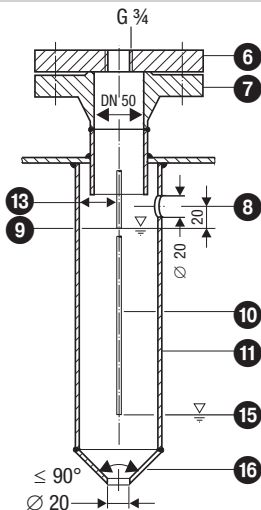

Fig. 4 Protection tube (provided on site) for installation inside the boiler
- One level electrode NRG 26-21 can be installed together with one GESTRA level electrode, one level switch or transmitter in a single protection tube or an external level pot (inside diameter DN80/DN100). **Fig. 4 - 7.** If the level limiting electrode is installed inside the vessel, it must be at least 40 mm away from the upper vent hole.